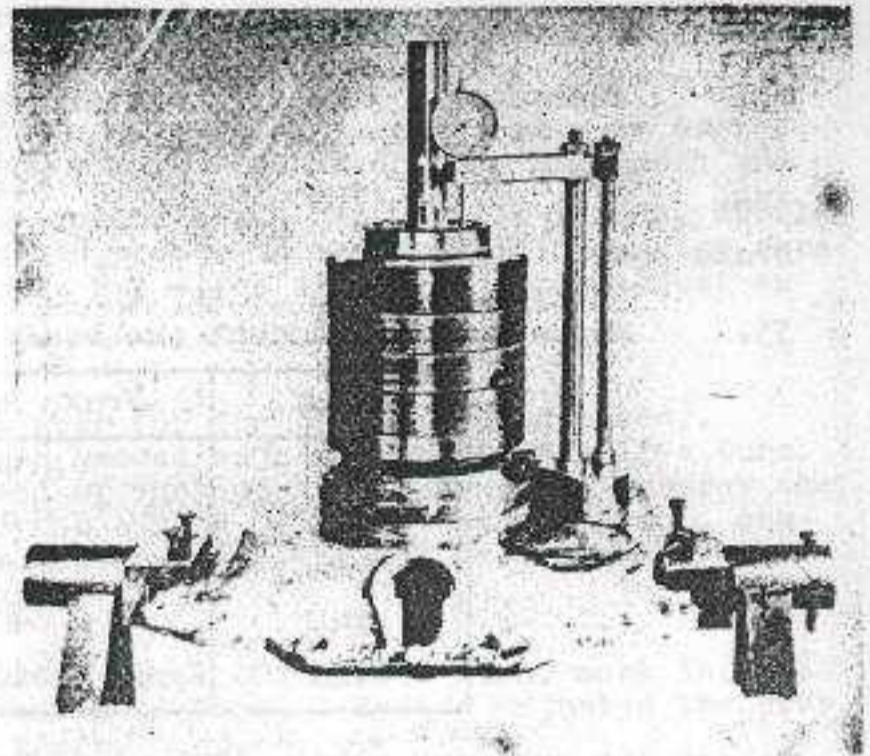

FIG 15 - GEARBOX - CHECKING THE NECESSARY CLEARANCE, RUNNING GEAR TO GEARCASE (SEE FIG 14)
- b. Now transfer the clock gauge to the running gear as shown at fig 15. This reading will show the gear case to be 0.040-0.050 inch greater than the running gear. Select a washer or washers which will allow the running gear 0.020-0.022 inch endfloat.